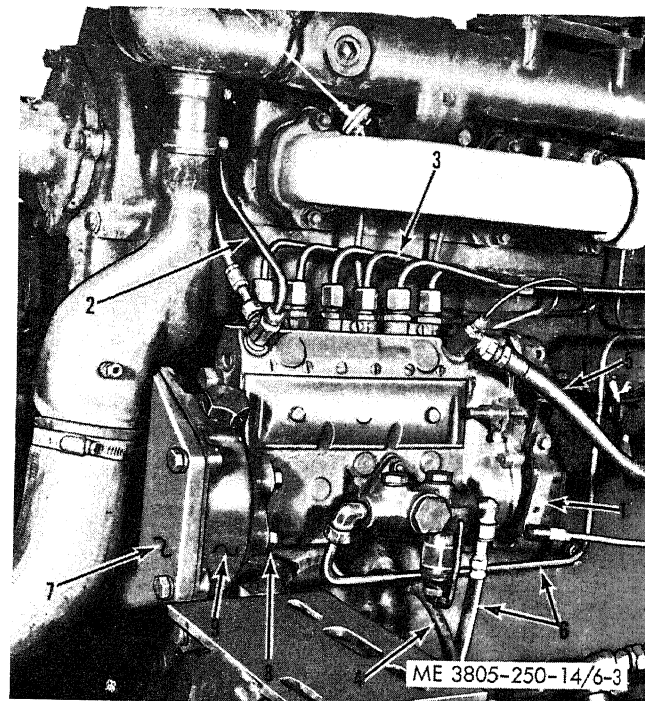

Figure 6-3. Fuel injection pump, removal and installation.
(4) Remove the air cleaner (para 4-21), fender (para 4-51), vertical support, and air compressor (para 8-15) to gain access to the fuel injection pump.
(5) Disconnect the throttle rod from the governor control arm (1, fig. 6-3) and fuel shutoff arm.
(9) Remove the fuel pump drive gear cover (7, fig. 6-3).
(10) Remove the capscrews securing the fuel pump drive gear.
(11) Remove the four pump mounting nuts (8), and carefully remove the pump from the timing gear cover (9).